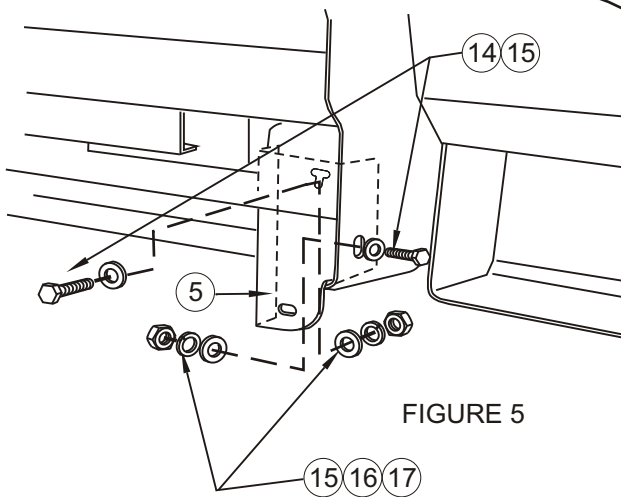

FIGURE 5
- STEP 4. Attach rear brackets to the backside of rocker panel using M10 fasteners as shown. **SEE FIGURE 5.**